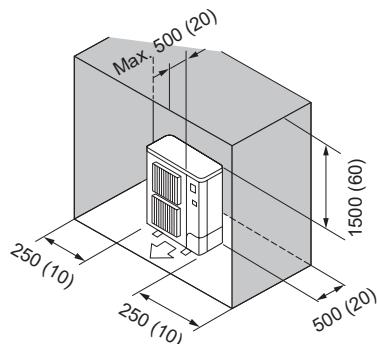

Fig. 2-11
(6) Obstacles at rear, sides, and above only (Fig. 2-11)